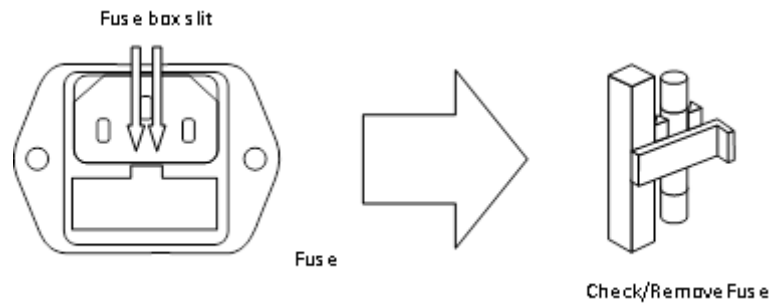

Figure 1.7: Fuse Holder
2. Locate the fuse box in the rear panel, beneath the AC power socket. Figure 1.7